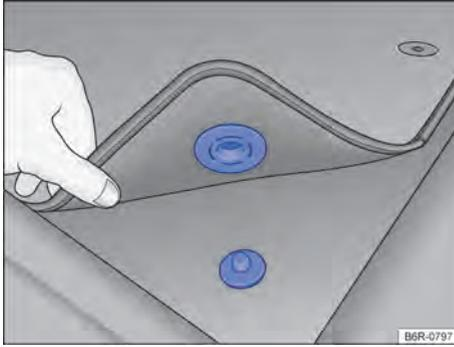

Fig. 18 Driver side mat attached to the floor pin.
- ✓ The floor mat in the footwell on the driver side must be securely fastened to ensure the pedal area is unobstructed. Depending on the version of the vehicle, the driver mat may be attached to the floor mat pin → Fig. 18.